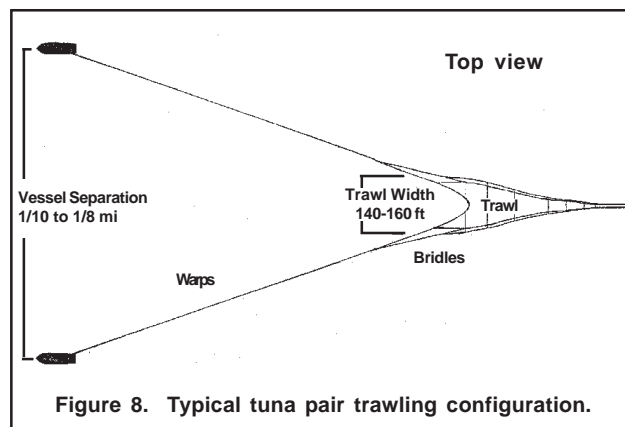

Figure 8. Typical tuna pair trawling configuration.
30. BRIDLES PER WARP: Record the number of bridles attached to each warp. This information may be obtained by reviewing the net plans or from the Captain. See Figures 8 and 9.
31. BRIDLES PER SIDE: Record the number of wings or bridles found on **one** side (left or right) of the net. See Figures 8 and 9.
32. WARPS PER BOAT: Record the number of warps fished by each boat. See Figures 8 and 9.